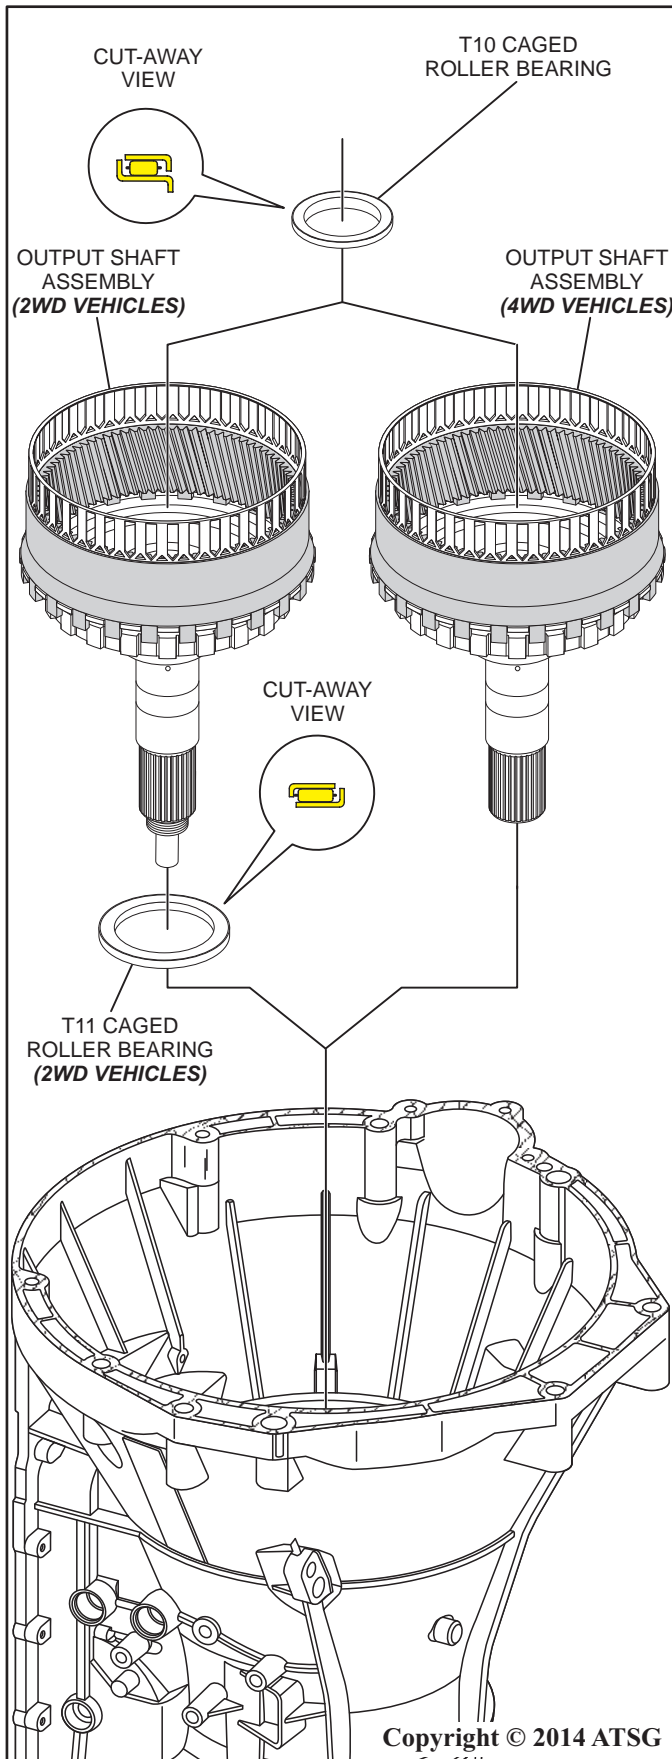

Figure 55
37. Remove the T10 caged roller bearing, the output shaft assembly and the T11 caged roller bearing (*2WD vehicles only*) as shown in Figure 55 and set aside for disassembly and cleaning.